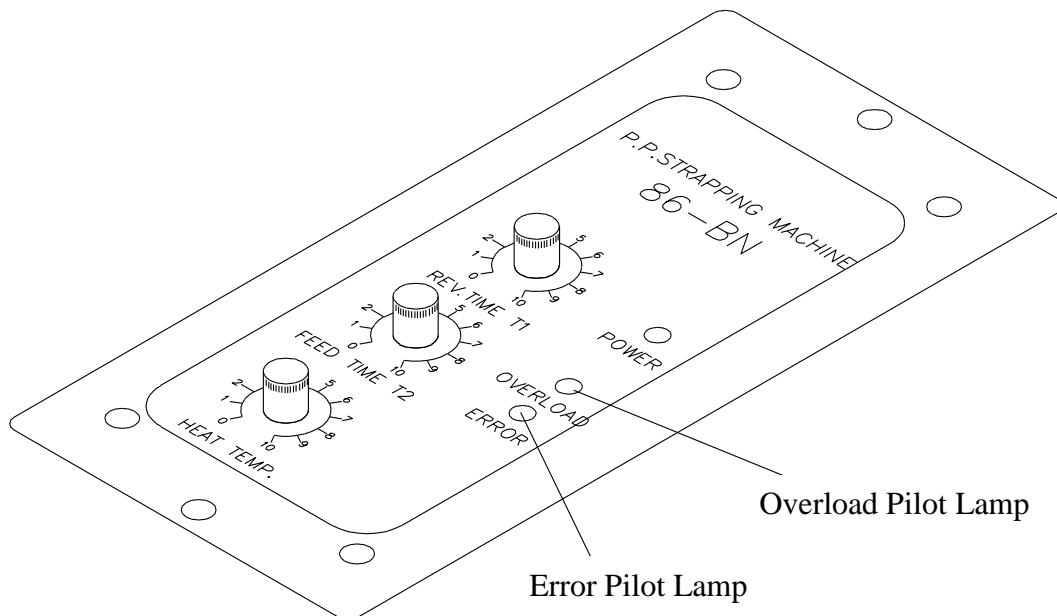

Fig.A-1
(3) Safety device
(4) Start
(5) PCB electric control
- b. OVERLOAD (refer to Fig. A-1)